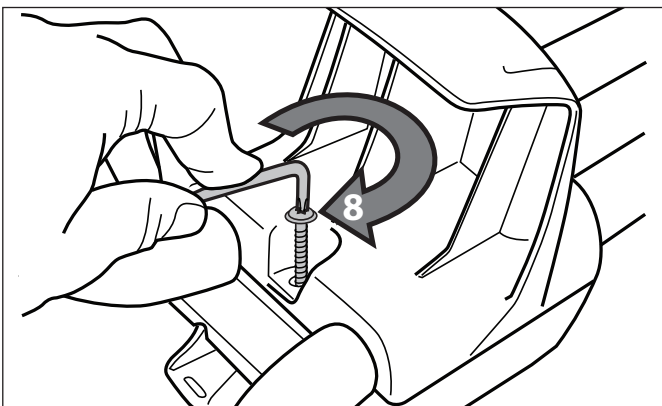

Figure 7. Install the Power Cable Hook and Control Unit Hook
- Secure the power cable hook and control unit hook around the tubes using a screw and hand tighten with the Torx wrench (supplied with unit). Refer to Figure 7.